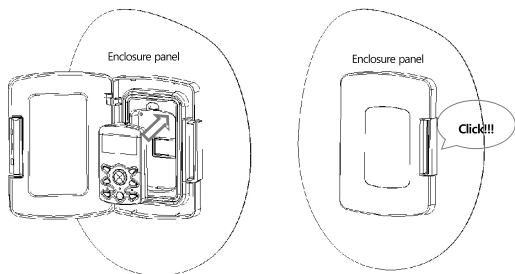

Figure 4. Keypad Installation
6. Install the keypad in mounting option and close the cover as show in Figure 4.